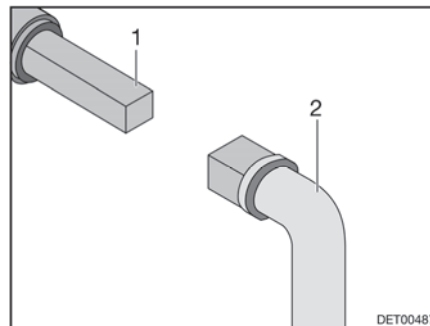

Fig. 147 Operation of the waste water tap
- Place key (Fig. 147,2) onto the square bolt (Fig. 147,1).